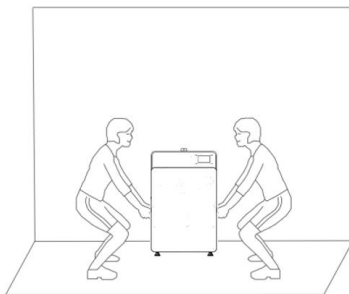

Figure 2-5
Step 1 :Lift the device with two hands to the wall where cables are connected, as shown in Figure 2-5.